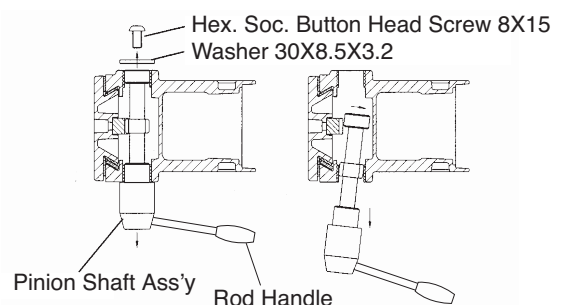

Fig. 16
- (1) Unscrew Hex. Soc. Button Head Screw 8x15 using Hex. Socket Screw Key 5 included in the accessories.
- (2) Pull out the Pinion Shaft Assy with Rod Handles as shown in the sketches in Fig. 16.